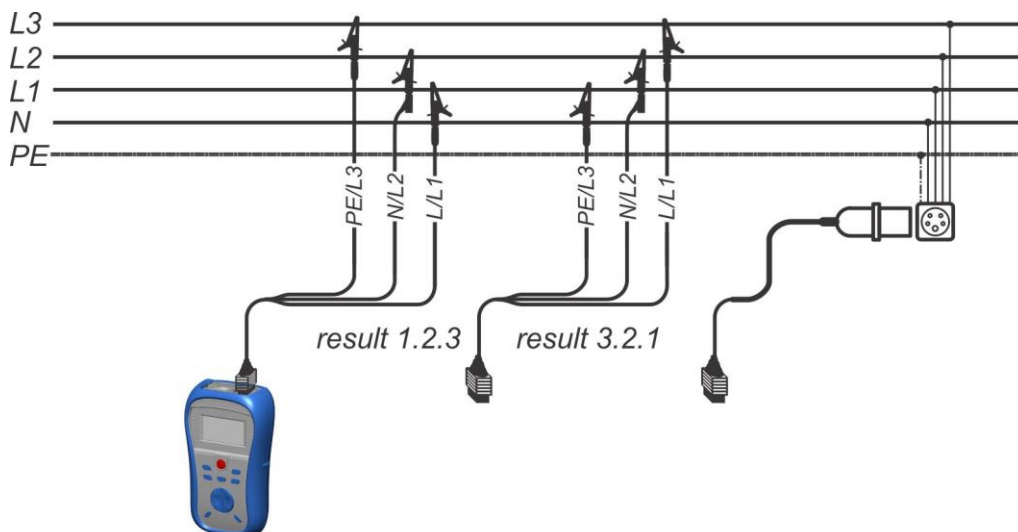

Figure 5.15: Connection of universal test cable and optional adapter in three-phase system
- ❑ **Connect** test leads to the item to be tested (see figures 5.15 and 5.16).